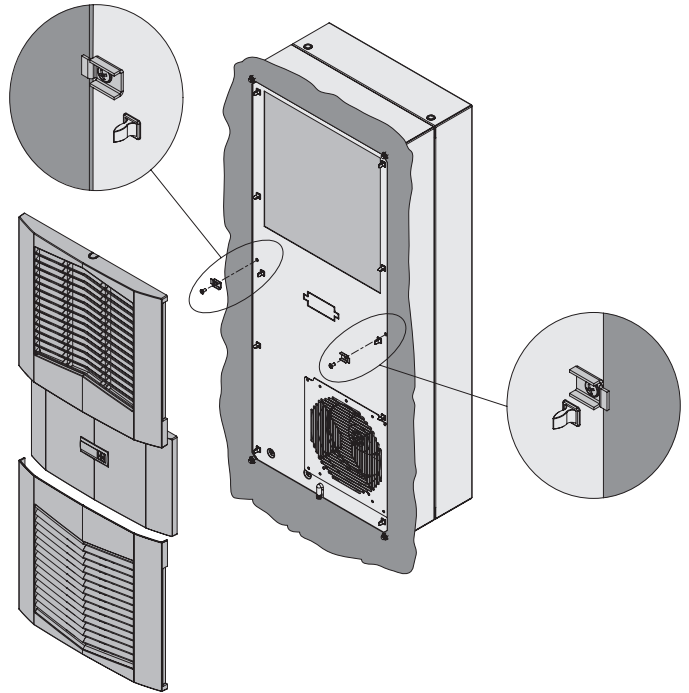

Figure 8
7. Push the louvered grille and, where applicable, the center panel, onto the front panel. See Figure 8.